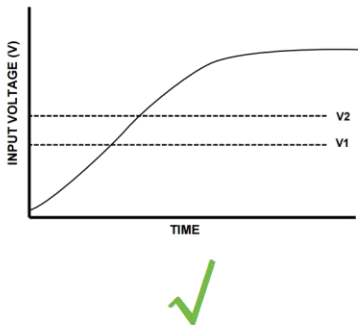
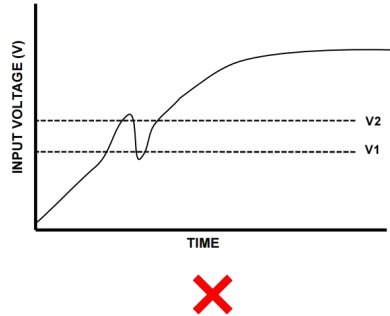

Figure 3-12 Monotonic power supply
Figure 3-13 Non-monotonic power supply
FD1X5 series drive must use the monotonic power supply shown in Figure 3-12 when powering on. If the non-monotonic power supply shown in Figure 3-13 is used, when the deviation is close to any threshold voltage, the non-monotonic slope may cause problems such as abnormal start of the driver, resulting in an error failure.
- In figure 3-12 and figure 3-13, V1 indicates 10V voltage, and V2 indicates 17V voltage.